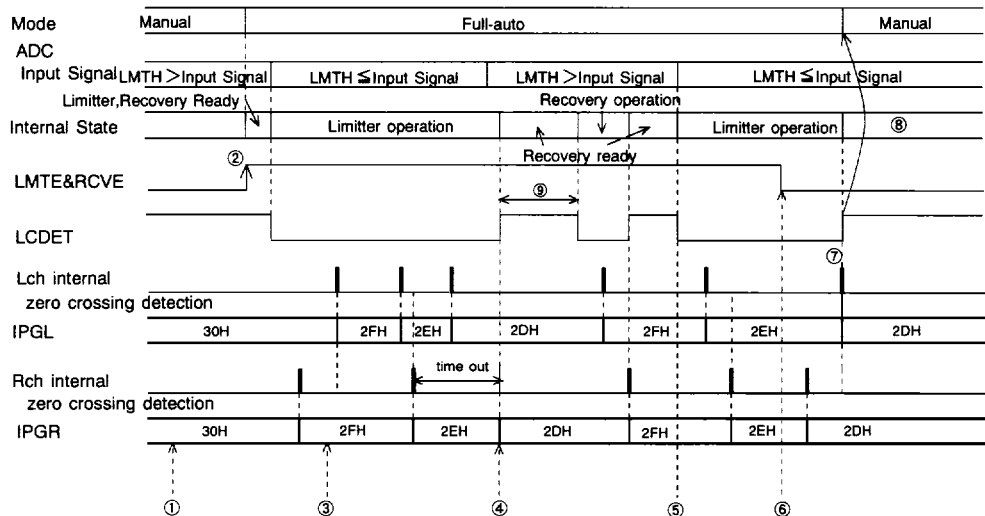

Figure 9. Control example of full-auto mode operation (LMAT=RATT: 1 step, ZENM=ZELM="1")
- ② WR(LMTE=RCVE="1"): After the registers concerned in the auto limiter operation is set up and confirming the zero crossing flags(ZFIPL, ZFIPR)="1", LMTH and RCVE are set "1".
- ③ WR(IPGA="31H"): As the operation is full-auto mode, writing by uP is ignored.
- ④ The ready of recovery starts.
- ⑤ As the input signal of ADC exceeds LMTH, the recovery operation (in the figure, recovery ready) is discontinued and the limiter operation starts.
- ⑥ WR(LMTE=RCVE="0"): The full-auto mode operation is completed.
- ⑦ In Figure 9, since "0" is written to LMTE& RCVE during the ATT operation, the operation changes to the manual mode after completing ATT operation. After confirming LCDET="1", it is possible to change the each register set-up. If LMTE&RCVE are set "0" during the full-auto mode operation, LCDET becomes "1" after the max "1" ATT/GAIN operation is completed by internal state.
- ⑧ In this case, the input signal of ADC exceeds LMTH, the auto limiter does not operate because of LMTE=RCVE="0".
- ⑨ After the limiter operation is completed, the AK4516 waits for the time set by WTM1-0. If the input signal does not exceed (LMTH - 2dB), the recovery operation is executed. After the waiting time finishes the next waiting time starts immediately. In recovery ready, the waiting timer is reset under the condition of $(LMTH - 2dB) \leq \text{Input Signal} < LMTH$. And the timer starts under the condition of $(LMTH - 2dB) > \text{Input Signal}$.